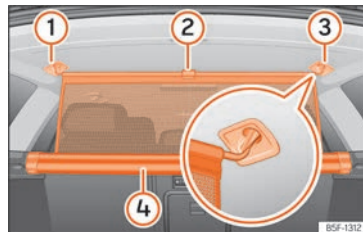

Fig. 141 In the luggage compartment: securing the net partition.
- Pull up handle »» Fig. 141 ② to remove the net from the casing ④.
- Hook in the net partition on the right or left side ③ (magnified image).
- Hook in the net partition into the housing on the other side ① by pulling the rod.